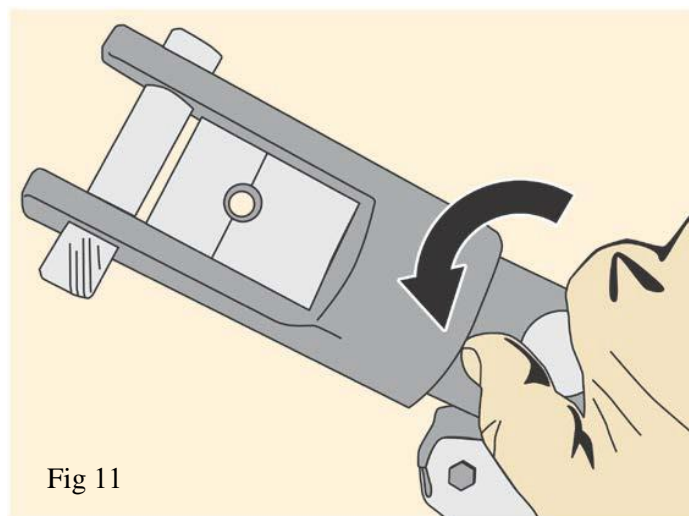

Fig 11
- c) Turn the knob on the Cable Crimper counterclockwise to open the jaws (Fig 11). Position the jaws around the fitting, 1/8" from where the cable enters the fitting.